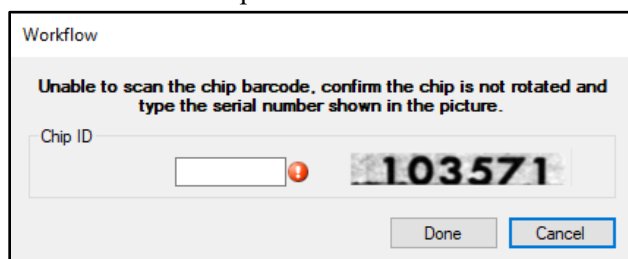

Figure 76. Input chip ID.
- If the chip ID is readable by eye (Figure 76), but the software is unable to read it, manually enter the ID into the “Chip ID” field.
- If the scan completes, but there is no chip ID picture shown, as in Figure 76, that indicates the chip is likely in the incorrect orientation and needs to be rotated and resealed.